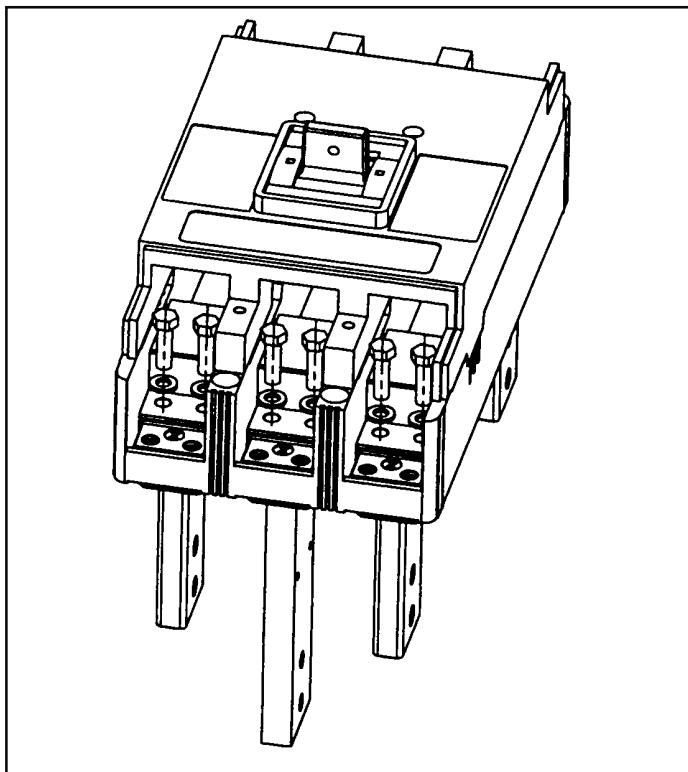

Figure 2-3. 1600 Amp Rear Connector Installation (Connectors, Barriers and Hardware Included).
- Install the rear connectors to the line and load side of the circuit breaker (Figure 2-3). Do not fully torque the bolts until after the barriers are positioned correctly. On three pole breakers the longer connectors are on the center phase. On four pole breakers, short and long connectors should alternate on adjacent phases.